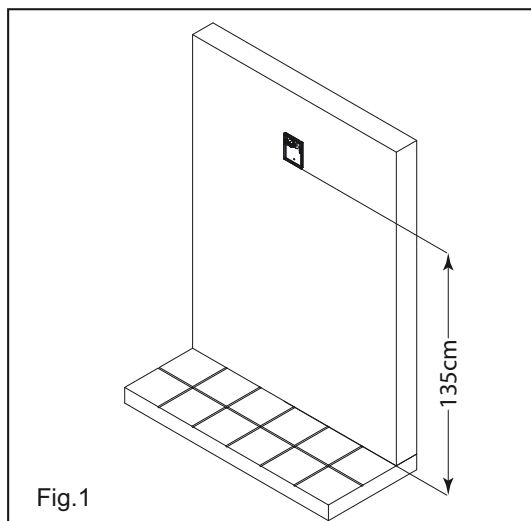
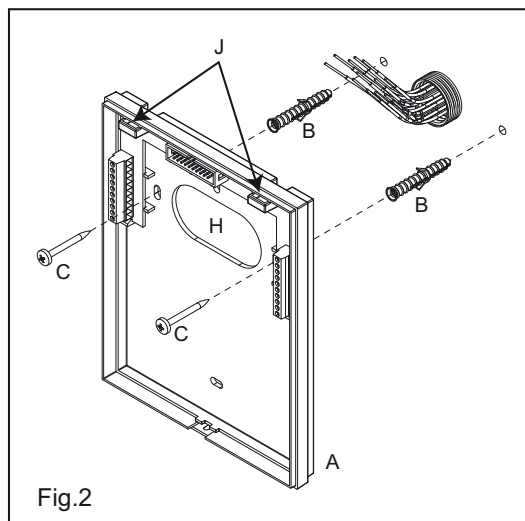
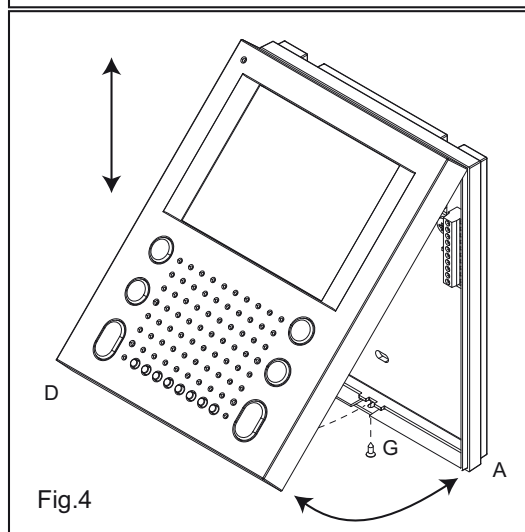

Fig.1
Fig.2
Fig.4
- When in the programming mode press and hold the "⏮" button, LED 1 will stop flashing and LED 3 (Fig.1) will start to flash showing the number of times the button is pressed (each flash = 15 minutes i.e. 8 flashes = 2 hours)
- Put the bottom "A" against the wall at 135cm from the finished floor (Fig.1). All cables must be fed through hole "H" (Fig.2).
- Leaving approximately 135cm from the finished floor, fit the bottom "A" against the wall and mark the fixing holes considering that the cables must be fed through the opening "H" (Fig.2)
- Make the holes, and fix bottom "A" on the wall using the two wall plugs "B" and the two screws "C" as shown in figure 2.
- Hook cover "D" to bottom "A" by using the two clips "J" (Fig.2) as shown in figure 4 then push down cover "D" towards bottom "A". Then proceed with system testing.
- When finished the testing, fix cover "D" at the bottom "A" using the screw "G" (Fig.4).